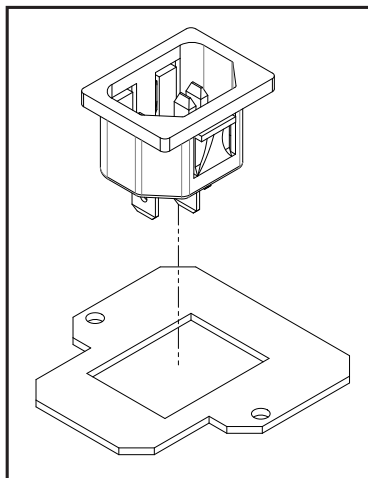

Figure 80: Electrical Adapter Plate
3. Press the IEC outlet into the adapter plate (included in the manual bag). Refer to Figure 80 for proper geometry and orientation. **Make sure tangs are completely seated of the plug will not engage fully.**